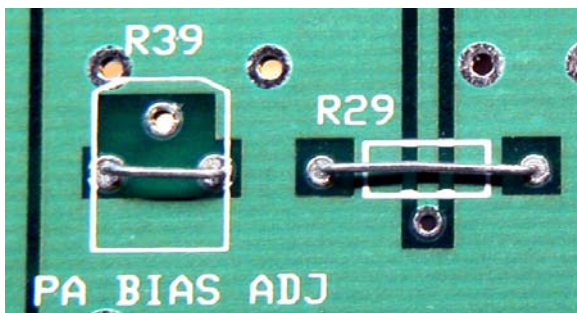

Figure 29. R29 and R39 Jumpers.
- Install jumpers across the solder pads of R29 and R39 in the center of the board (See Figure 29). The PCB's green coating is a good insulator, but it is best to leave clearance under the jumper for R29 to avoid the possibility of a short.